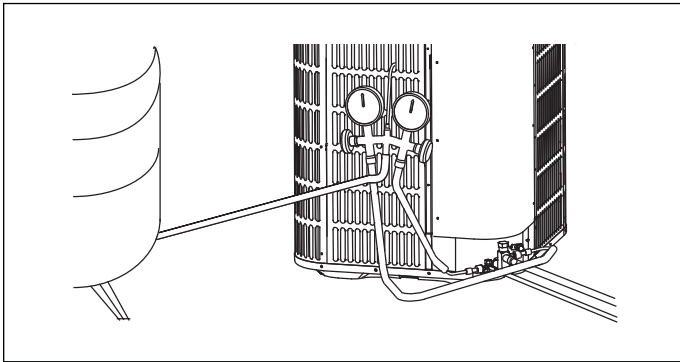

Figure 38
- ▶ Connect gauges to refrigerant bottle and unit as illustrated (Fig 38).